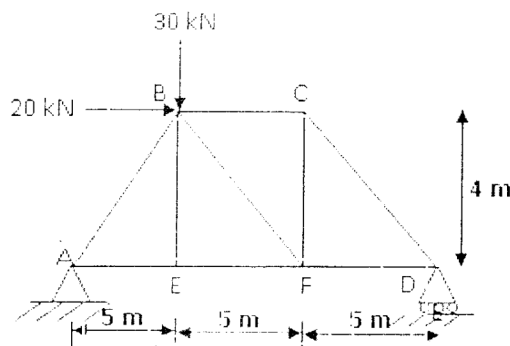

Figure:1
2. Calculate the member forces for the truss shown in figure 1 by using method of joints. [10]